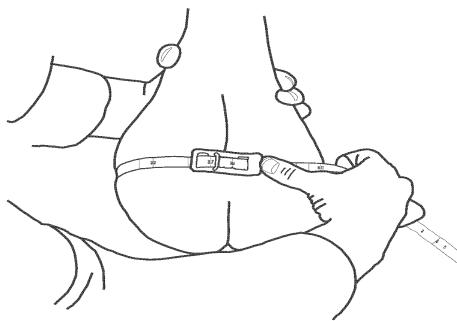

Figure 4. Proper method for measuring scrotal circumference
- Testicles must be descended into the scrotum. Hold testicles to the bottom of the scrotal sack by placing your fingers on the side of the scrotum and above the testicles (figure 4). Do not place fingers between the testicles.